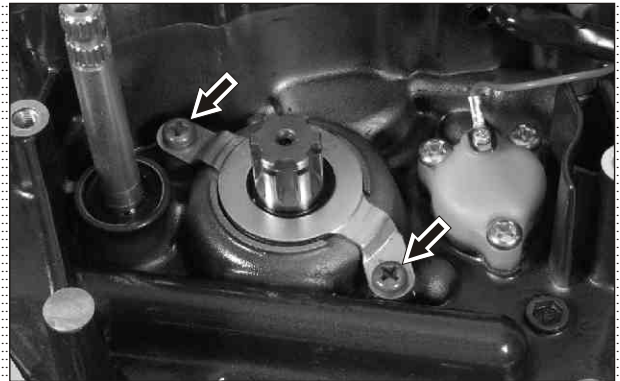

Fig. 3.47
- Remove CRPH screw (M6x12 - 2 nos) from the retainer drive shaft mounting. (Fig. 3.47)